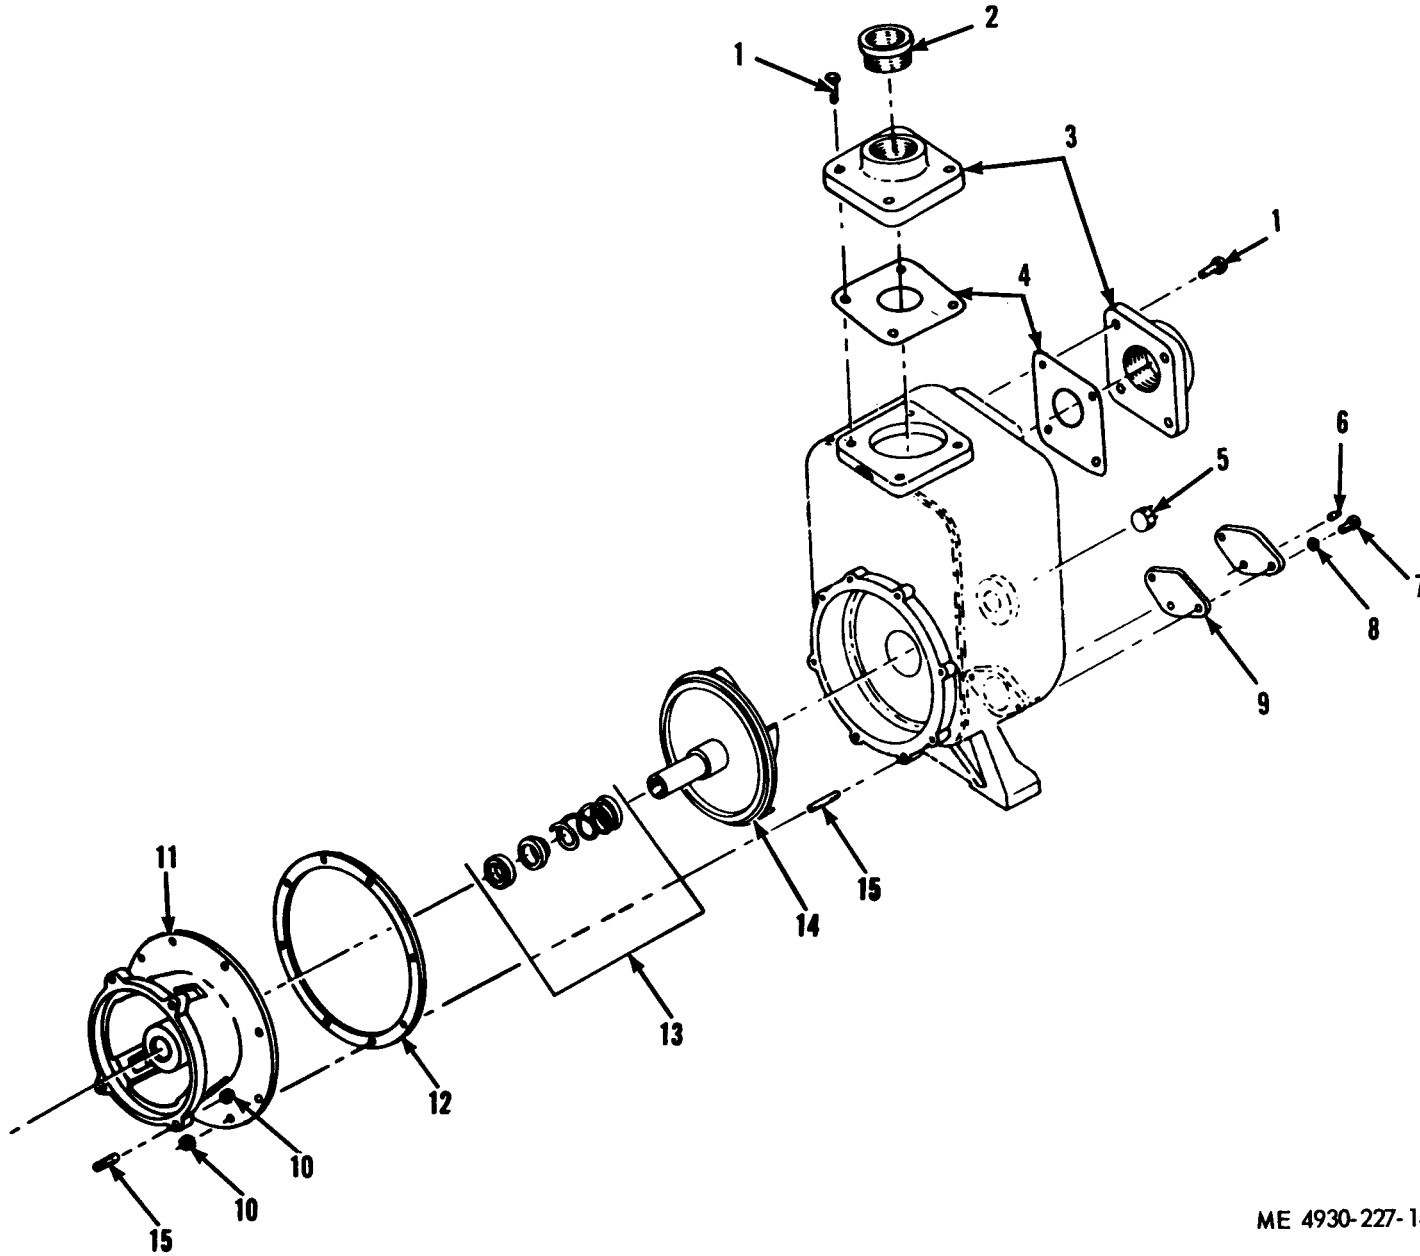

Figure 3-6. Pump and intermediate coupling, disassembly and reassembly.
(1) Clean all parts with an approved cleaning solvent and dry thoroughly.
(2) Inspect all parts for cracks, breaks, damaged threads and other defects, Replace a damaged part.
d. Reassembly. Refer to figure 3-6 and reassemble the pump and intermediate coupling.